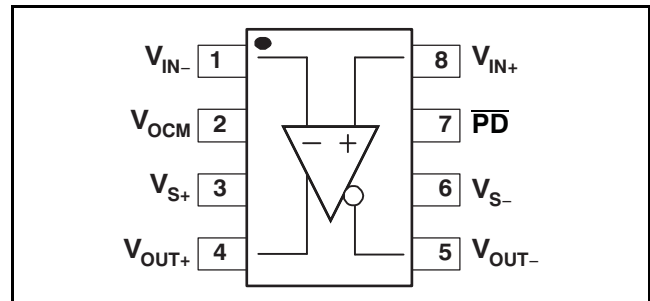

Figure 98. Fully Differential Amplifier Pin Diagram
Fully differential amplifiers are typically packaged in eight-pin packages, as shown in Figure 98. The device pins include two inputs (V_{IN+} , V_{IN-}), two outputs (V_{OUT-} , V_{OUT+}), two power supplies (V_{S+} , V_{S-}), an output common-mode control pin (V_{OCM}), and an optional power-down pin (PD).
A standard configuration for the device is shown in Figure 98. The functionality of a fully differential amplifier can be imagined as two inverting amplifiers that share a common noninverting terminal (though the voltage is not necessarily fixed). For more information on the basic theory of operation for fully differential amplifiers, refer to the Texas Instruments application note *Fully Differential Amplifiers*, literature number SLOA054.